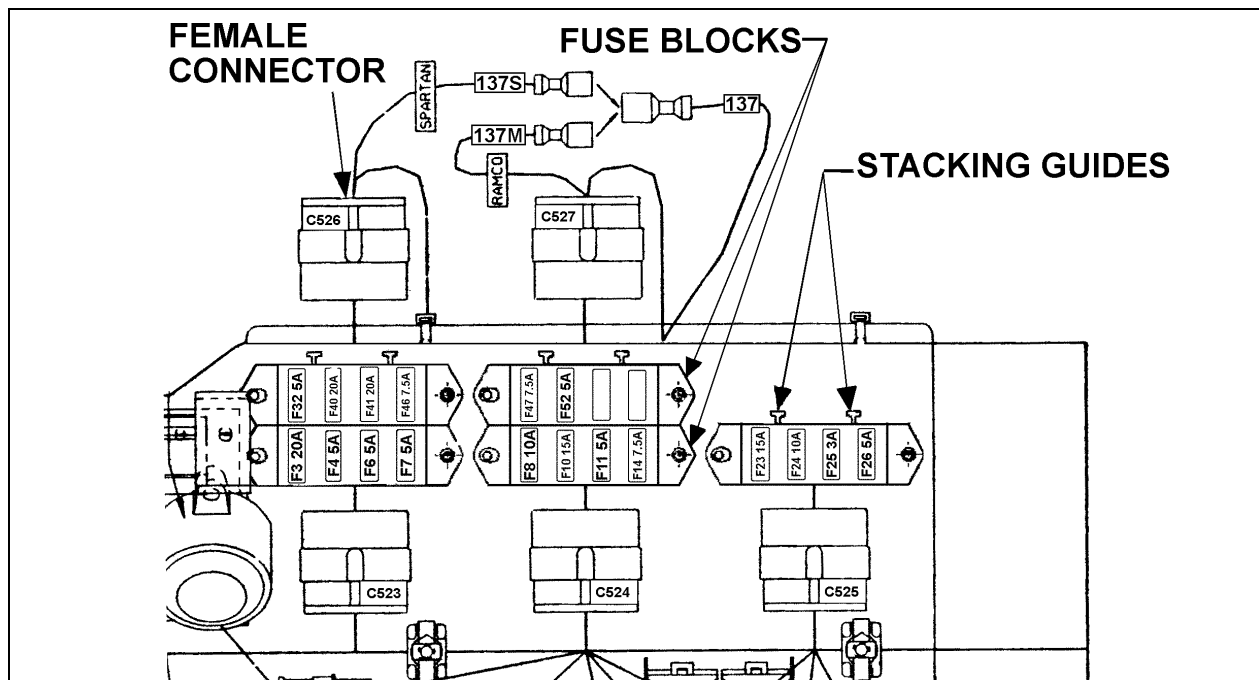

FIGURE 4: FRONT SERVICE COMPARTMENT (VIP-45)
1. Check fuse blocks positioning (Prévost # 562621) in front service compartment (5 blocks) and in rear electric compartment (3 blocks) (refer to fig. 4 and 5).
2. Ensure that "T" shaped stacking guides are pointing upwards (refer to fig. 4 and 5).